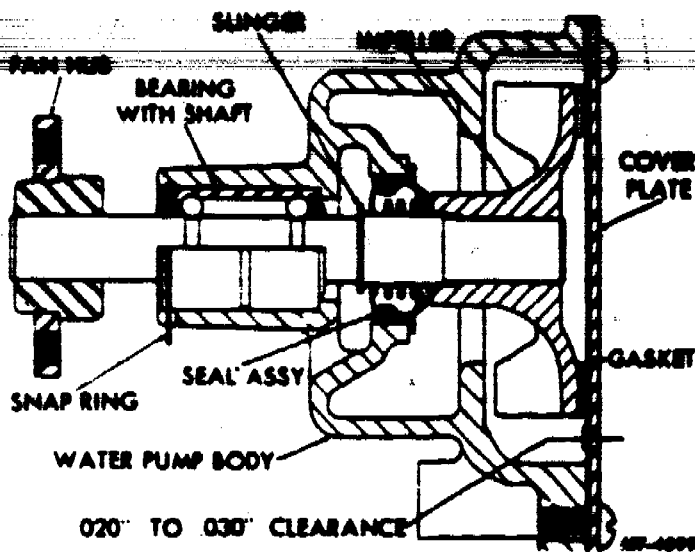

Fig. 89 - Sectional View of Water Pump
1. Remove three screws from back cover plate and take off plate and gasket from pump body (Fig. 89).